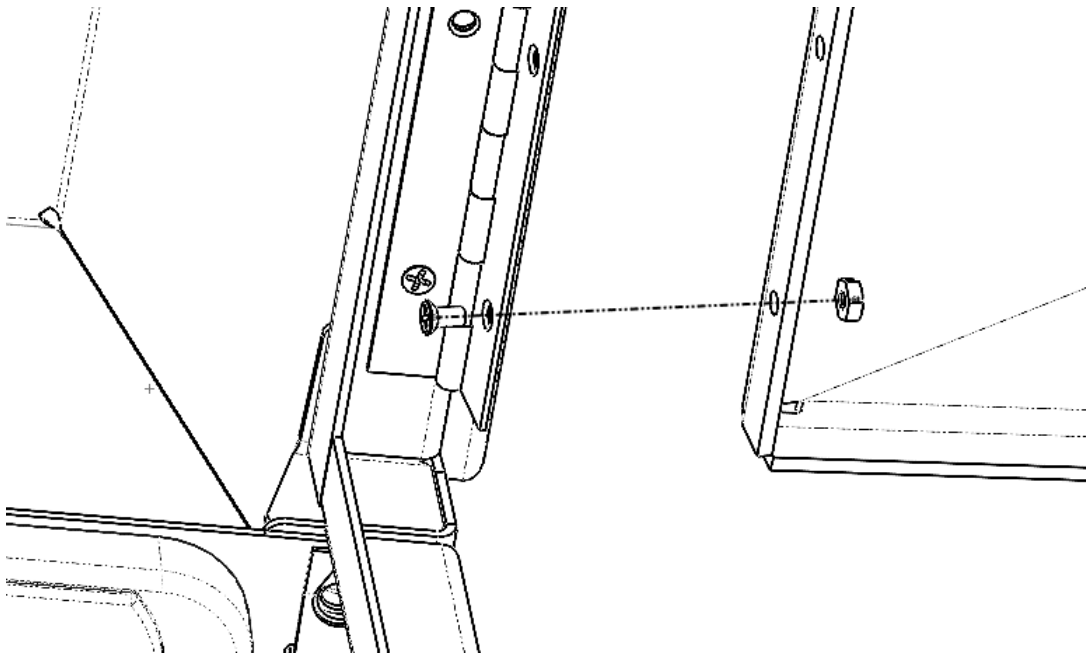

Figure 6: Attach the door to the hinge.
4. With the help of an assistant, screw the door onto the hinge. Use the supplied #4-40 flat head screws and nylock nuts. The fixed side of the hinge is shipped already secured to the roof panel. Tighten all twenty five #4-40 screws / nuts until they begin to make contact, then turn approximately a $\frac{1}{4}$ turn more. See Figure 6.